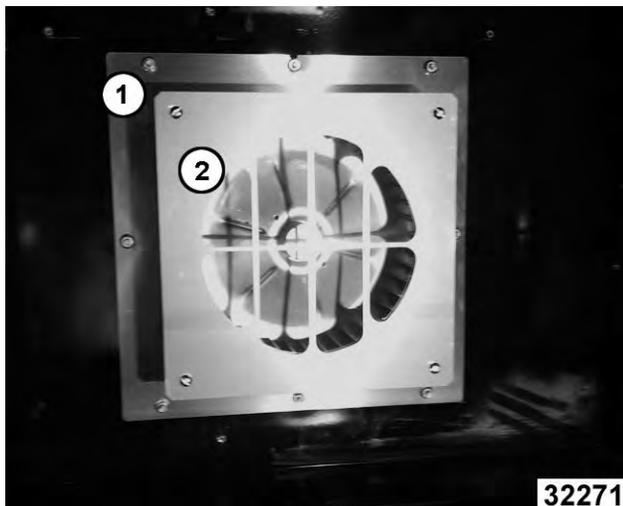

Fig. 27
5. Remove blower baffle screws (2, Fig. 27) if applicable.
6. Remove motor mounting plate nuts (1, Fig. 27).